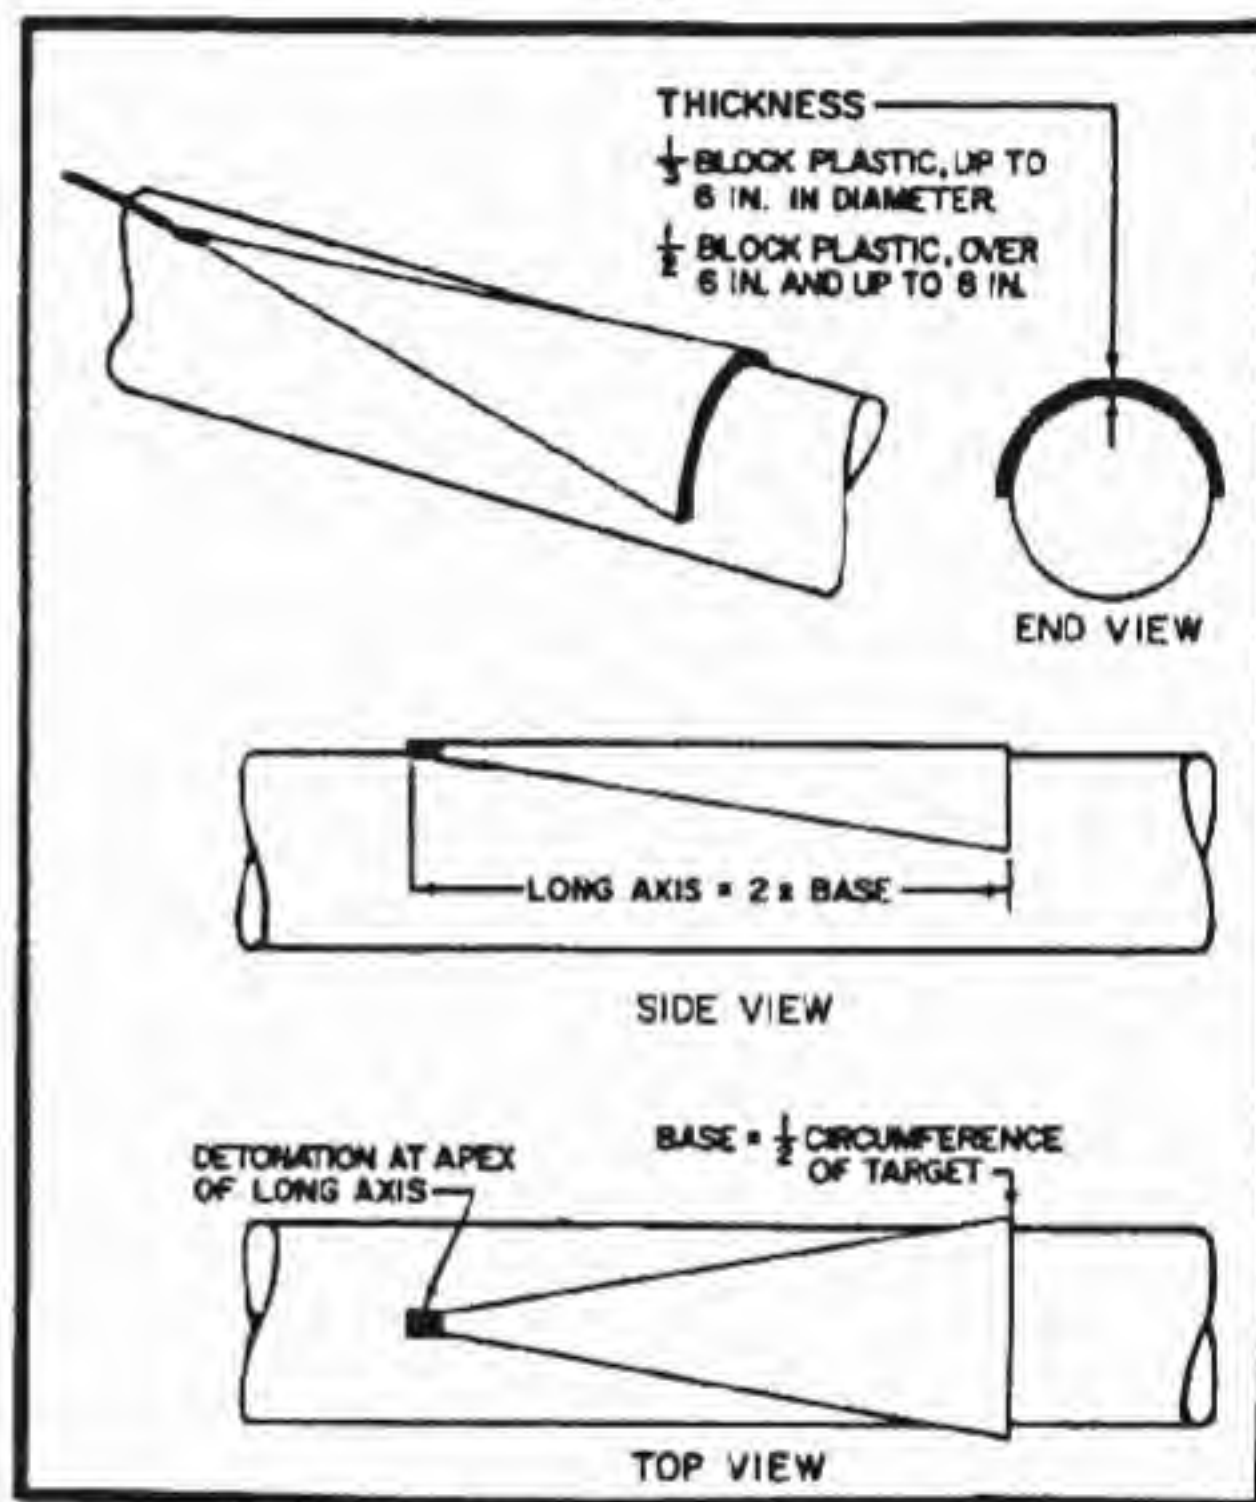

Figure 14 Saddle charge
a. Saddle Charge. This charge can be used to cut mild steel cylindrical targets up to 8 inches in diameter. Dimensions are as follows: The short base of the charge is equal to one-half the circumference. (Note that previously published dimensions called for threetimes the base, rather than twice the base.) Thickness of the charge is 1/3 block of C3 or C4 for targets up to 6 inches in diameter; use one-half block thickness for targets from 6 to 8 inches in diameter. Above 8 inches in diameter, or for alloy of steel shafts, use the diamond charge. Prime the charge from the apex of the triangle, and the target is cut at a point directly under the short base by cross-fracture. Neither the saddle nor diamond will produce reliable results against non-solid targets, such as gun barrels. These charges benefit from prepackaging or wrapping, providing that no more than one thickness of the wrapping material is between the charge and the target to be cut. Heavy wrapping paper or aluminum foil are excellent, and parachute cloth may be used if nothing else is available. (See figure 14.)